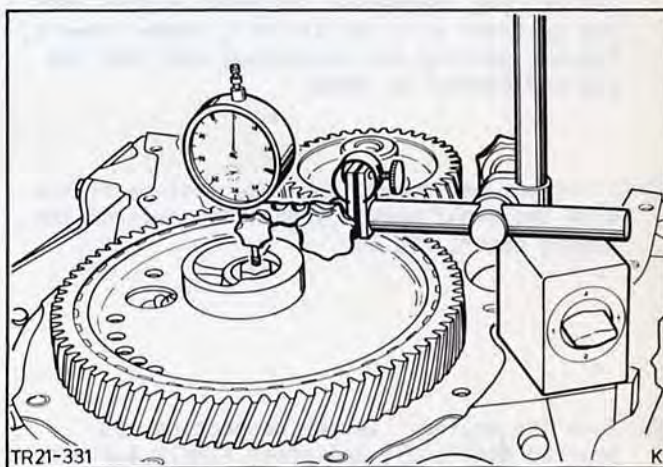

Fig.57. Check camshaft end float.
42. Check camshaft end float with a dial indicator, Fig.57, (see Technical Data).